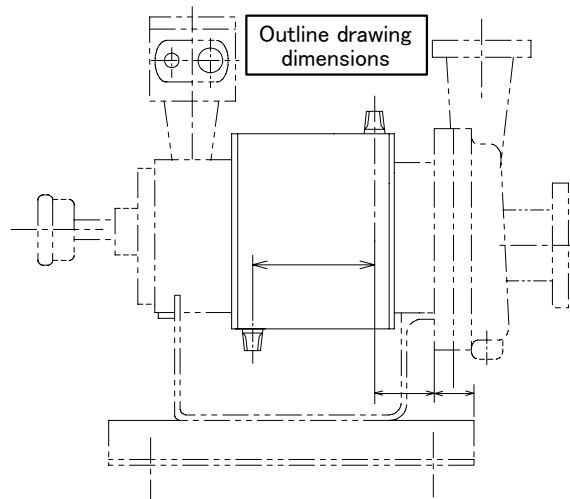

Fig.4-28 Confirmation of Jacket Position
- (10) When mounting the jacket (J01), follow the instructions given on the drawing of outline dimensions. (Refer to Fig.4-28.)